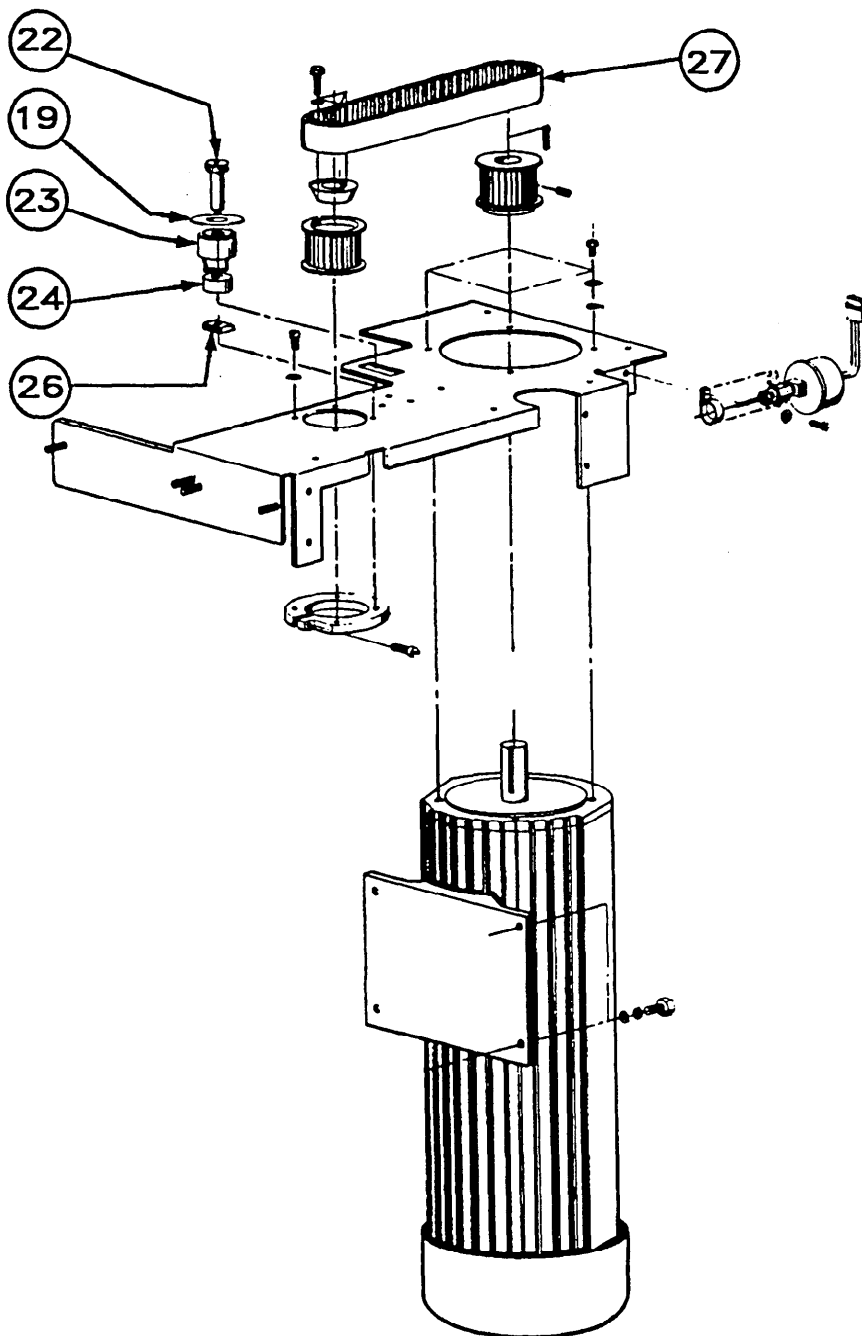

Figure 2 - FM-170 Idler Bearing Assembly with New Components
**NOTE: All item numbers (in parentheses) refer to Figure 2 of this publication.**
**NOTE: Figure 2 in this publication is similar to Figure 8.1 (sheet 3) and Figure 8.2 (sheet 3) in the FM-170 service manual. Figure 2 item numbers match those of Figure 8.1 (sheet 3). Figure 8.2 (sheet 3) item numbers are different.**
1. Remove and discard the idler bearing shoulder screw (22), yoke roller bearing (23), idler spacer (24), idler nut (26) and timing belt (27).